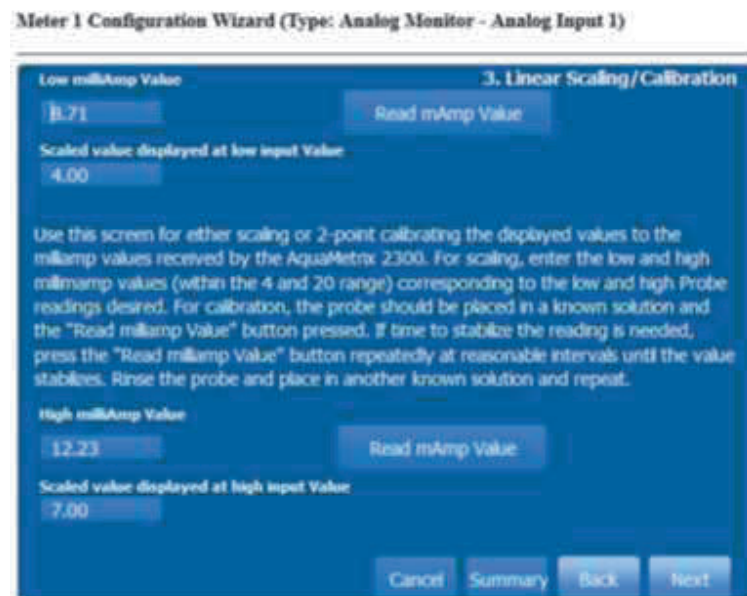

Figure 6-4– Wizard window for linear (2-point) scaling.
If linear (two-point) calibration is chosen the screen shown in Figure 6-4 appears. A two-point calibration requires two calibration standards in which the probe is immersed. The procedure is simple:
1. Place the probe in the first calibration solution. Allow at least 30 seconds for the probe to equilibrate—more if the probe has been sitting in the process and the temperature differs from the temperature of the calibration solution. Click on the top Read mAmp Value and take a measurement of the current. To insure that the probe has equilibrated take at least one additional current measurement. When you are satisfied that the measurement is stable enter the process value in the box, Scaled value displayed at low input Value. For instance, if the probe is in pH 4 calibration solution, enter 4, as shown in Figure 6-4.
2. Rinse the probe in clean water and place it in the second calibration solution. Repeat the measurement. In the example in Figure 6-4 the second solution is pH 7.